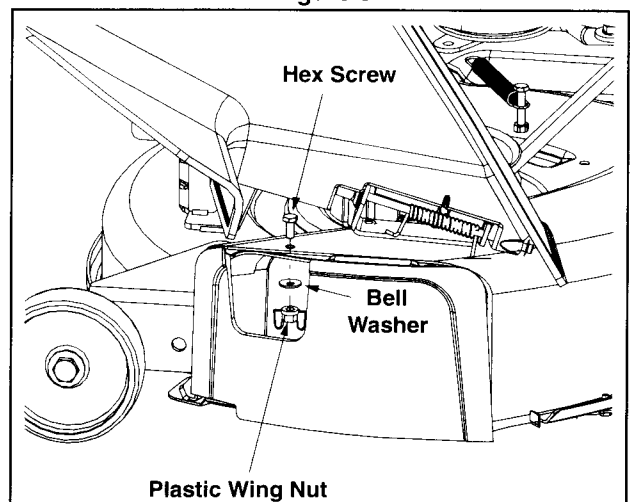

Figure 4
7. Reposition the mulch plug in place over the discharge chute opening and fasten it with the hex screw, bell washer and plastic wing nut as illustrated in Figure 4.